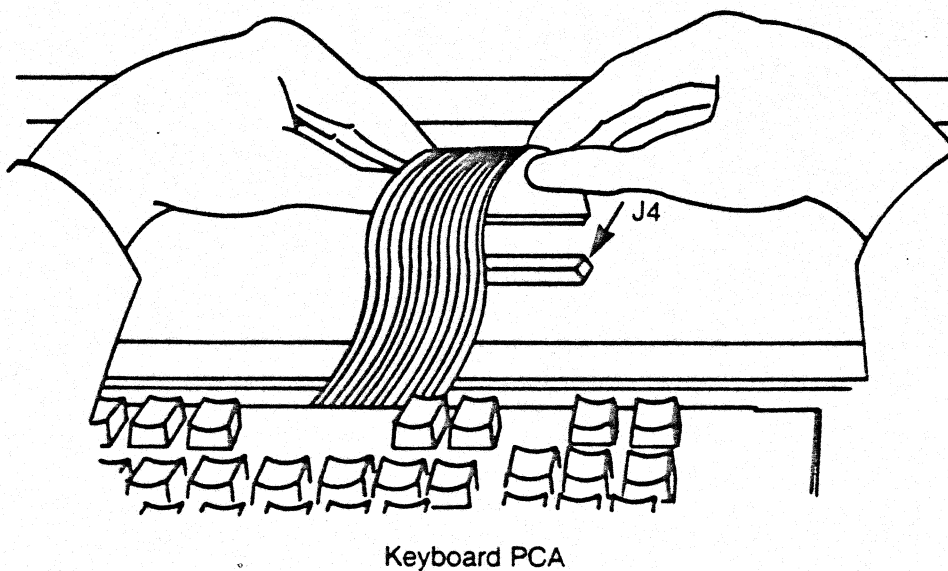

Figure 5-9. Keyboard Removal/Replacement
3. Grasp the ribbon cable by the extreme edges adjacent to the connector and pull the cable out of the connector (see figure 5-9). Lift the Keyboard up and out.
2. Grasp the ribbon cable on both edges and insert into the connector located on the Keyboard PCA. A gentle rocking action will help to insert the ribbon cable into the connector. The cable is fragile; do not use excessive force to insert it into the connector (see figure 5-9).